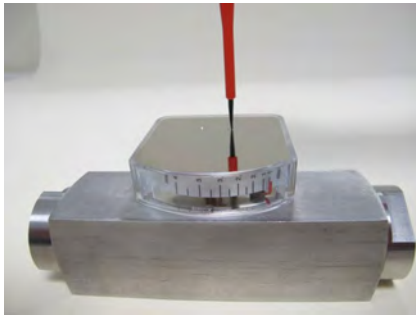

Fig. 72
27. ▶ Fasten the screws securing the display cover plate, observing the proper tightening torque (Fig. 72) ( Chapter 11.1 "Tightening torque of screws" on page 89)